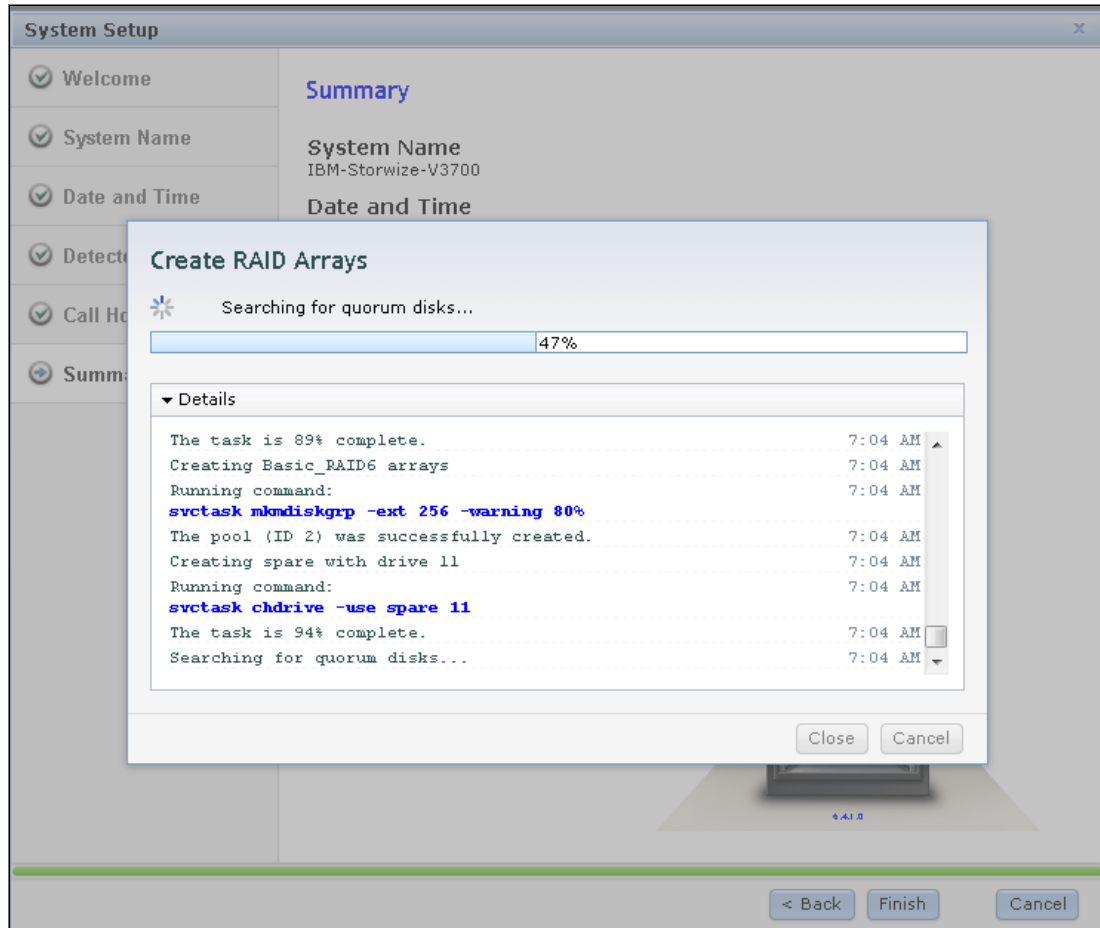

Figure 2-18 Preset RAID configuration
5. When an array is created, the array members are synchronized with each other by a background initialization process shown in Figure 2-18.